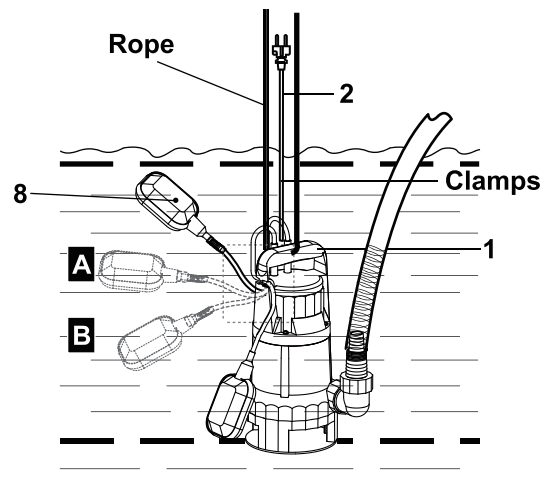

Fig. 4
> Fasten a rope (not provided) to the handle (1) and submerge the product carefully into the water reservoir (Fig.4)
NOTE: We recommend guiding the power cord by means of clamps alongside the fastening rope (Fig. 4).